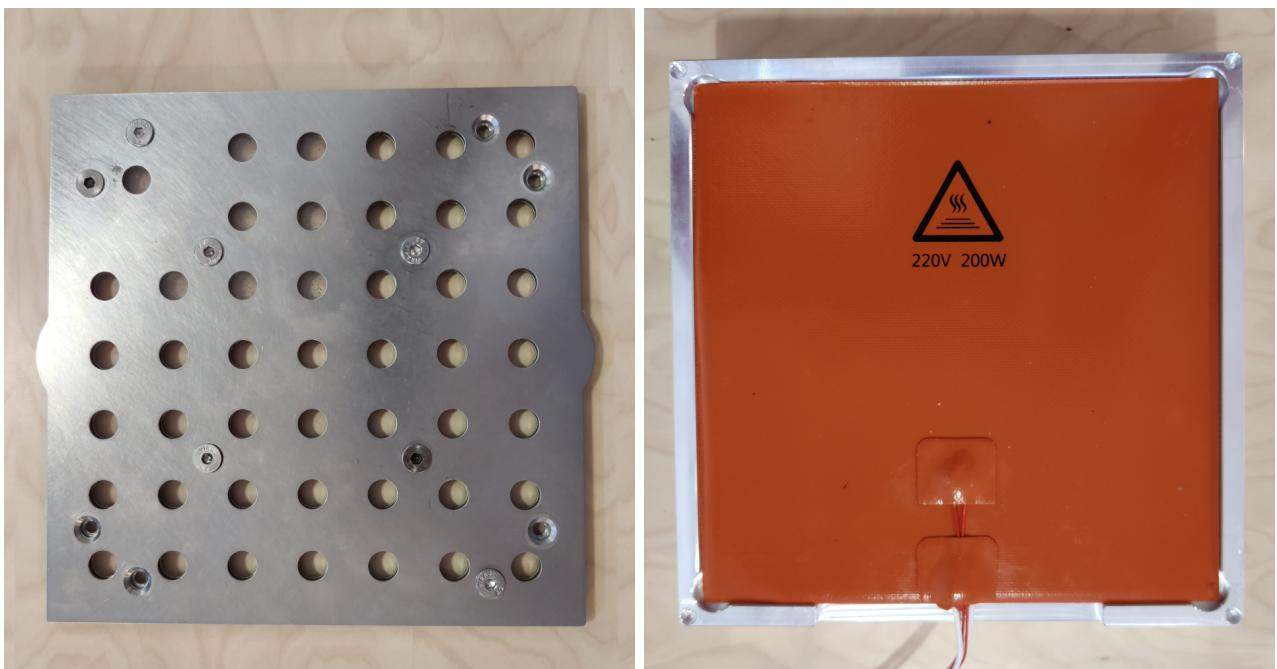

Fig. 4.12
2) The top part of the lid is placed on the middle section, again aligning the holes. Each screw is fastened, making sure not to over tighten (Figure 4.12, left)! On the bottom of the aluminum block, the heating mat is installed by removing the adhesive cover and attaching the mat precisely. Make sure the wires are protruding through the port in the bottom (Figure 4.12, right).